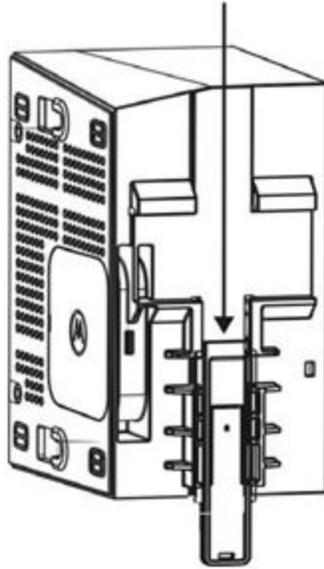

**Figure 13 - Dimensions of MC-EDGE unit**
1. Slide the supplied plastic tab at the back of the unit all the way down to the bottom of the unit. See Figure 13. If the MC-EDGE unit includes one or more I/O expansion modules, repeat this step for all I/O expansion modules.